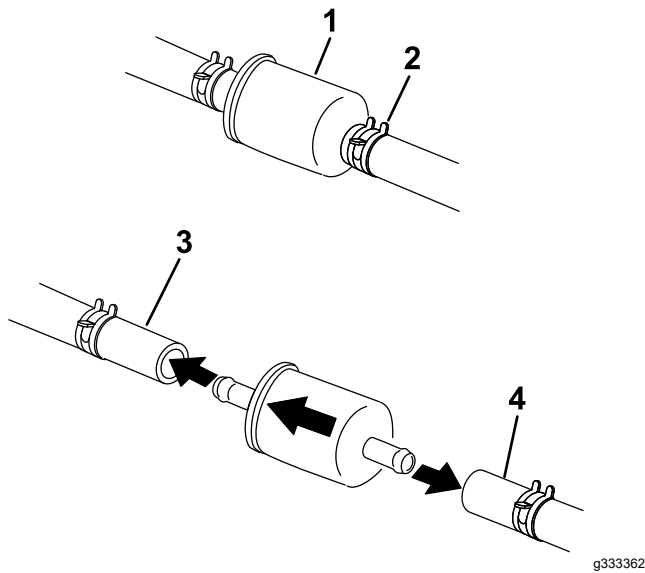

Figure 73
4. Close the fuel-shutoff valve under the seat (Figure 73).
5. Squeeze the ends of the hose clamps together and slide them away from the filter (Figure 73).
7. Install a new filter and move the hose clamps close to the filter (Figure 73).